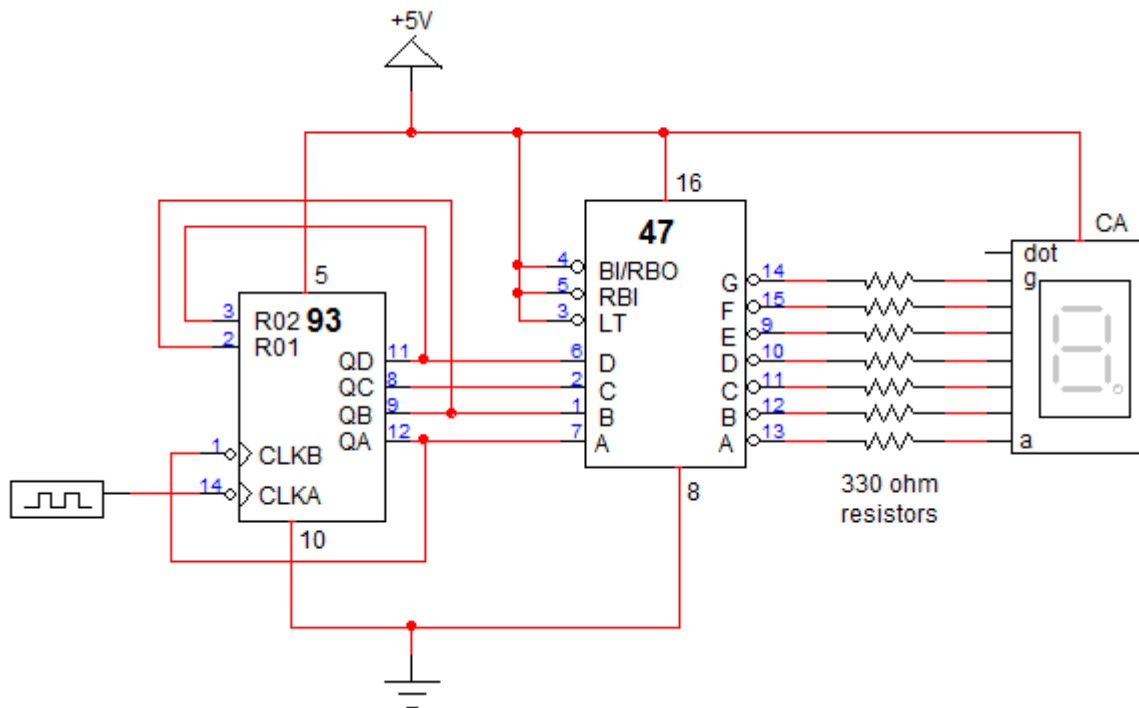

Figure 5. BCD Counter Circuit
2. Build the BCD counter given in figure 5. Check the BCD counting sequence on 7-segment display.